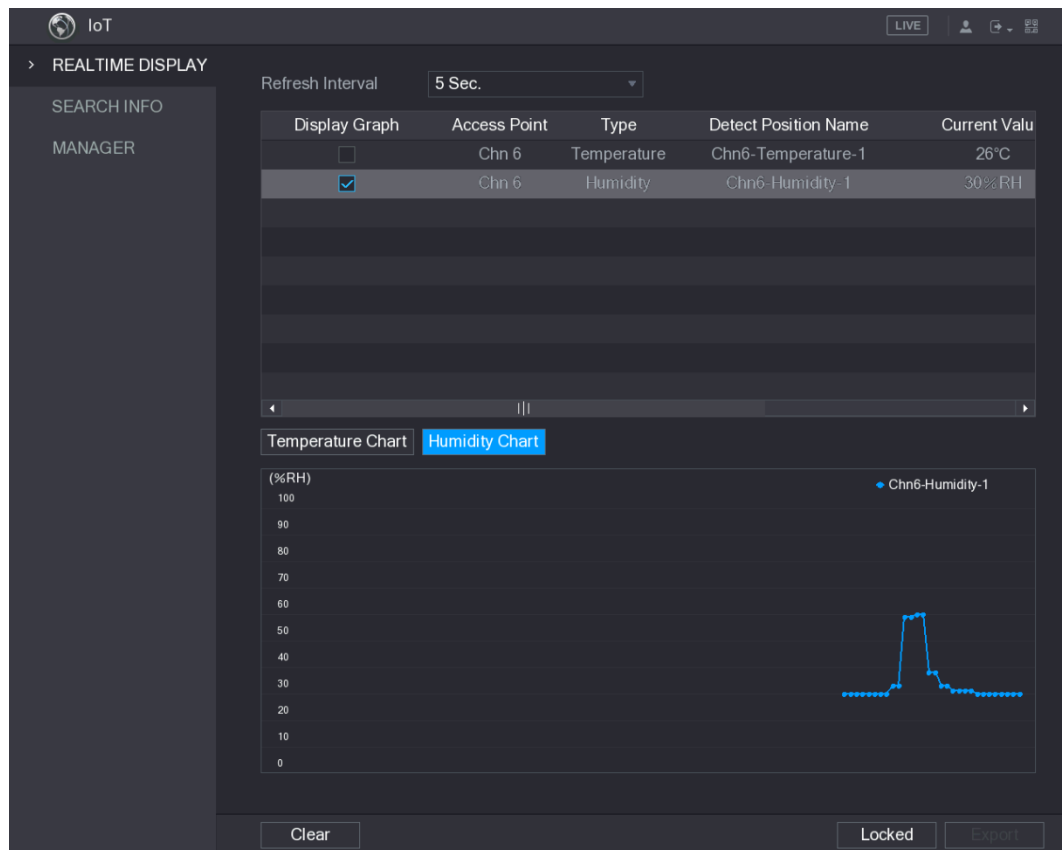

Figure 5-184
Step 4 On the **Realtime Display** interface, click the **Humidity** tab. See Figure 5-184.